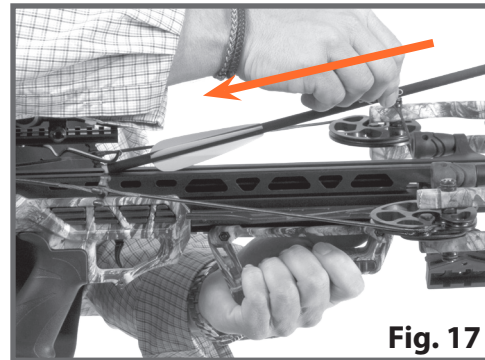

Fig. 17
4. Place the arrow/bolt so that the cocking vane/fletching (the odd colored vane/fletching), is down in the flight groove (Fig. 17)